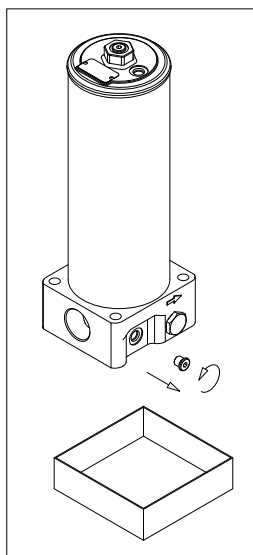

fig. 14
- (Fig. 14) Unscrew one of the two drain plugs after placing a vessel to collect the operating fluid